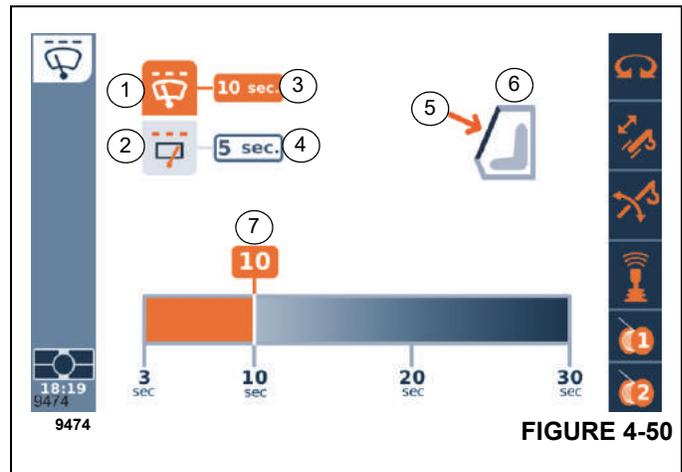

FIGURE 4-50
Select and confirm the symbol (3), (Figure 4-50). The Windshield Wiper Menu opens.
- The displays (1), (Figure 4-50) and (2), (Figure 4-50) show the current values.